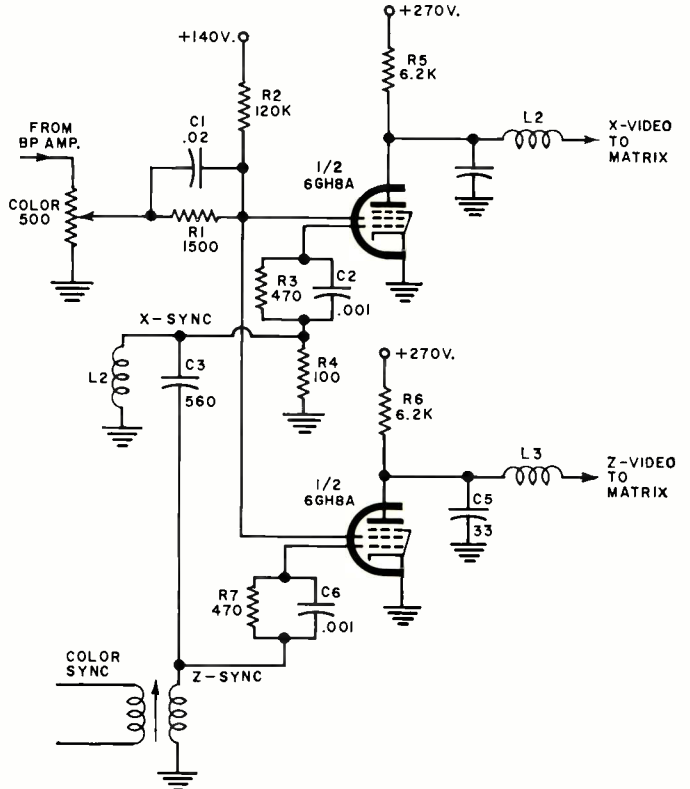
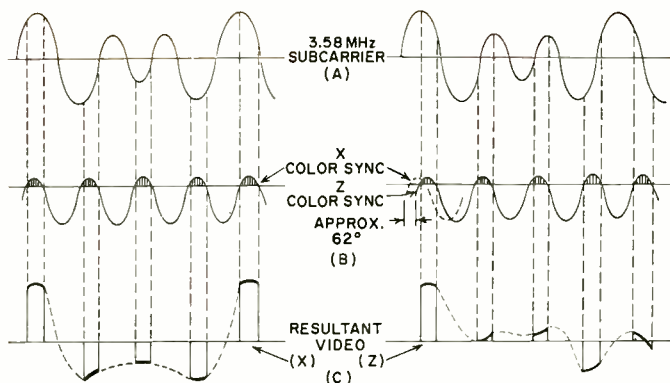

Fig. 5. Simplified chroma demodulators as used in RCA sets.
Fig. 6. (A) Modulated color subcarrier. (B) 3.58-MHz oscillator signal. (C) Resultant video for X channel (left) and Z (right).
From the chroma bandpass transformer, the signal goes to the color control potentiometer. This control determines the amplitude of the color subcarrier which will be applied to the two demodulators and therefore controls the intensity of the colors on the CRT screen. As illustrated in Fig. 5, both demodulator tubes receive the chroma signal on their screen
Fig. 6 (left) illustrates a typical portion of a 3.58-MHz phase- and amplitude-modulated subcarrier (A). Below this, the X color sync signal with the cut-off bias of the tube indicated by a horizontal line is shown (B). If the tube can conduct only during the short intervals when the color sync signal goes above the cut-off bias, the resultant plate voltage
will be very much like the short pulses shown at (C). The output of the demodulator consists of a series of short pulses, occurring at the 3.58-MHz rate, and varying in amplitude according to the phase and amplitude relationship of the subcarrier to the color sync. The video signal is obtained by integrating these pulses, using a capacitor, to produce a waveform as indicated by the dotted lines connecting the individual pulses of (C). To illustrate the effect of the approximate 62° phase delay between the X and Z color sync signals, Fig. 6 (right) shows operation of the Z signal, the only difference being the relative phase between the subcarrier and the color sync signal. Note that the two resultant video signals are different from each other. At the output of the X and Z demodulators (Fig. 5), a capacitor and peaking coil provide the integration and also act as a filter for the 3.58-MHz color subcarrier. As a result, the output of the X and Z demodulators will be a completely integrated, smooth video signal whose highest frequency is about 500 kHz.